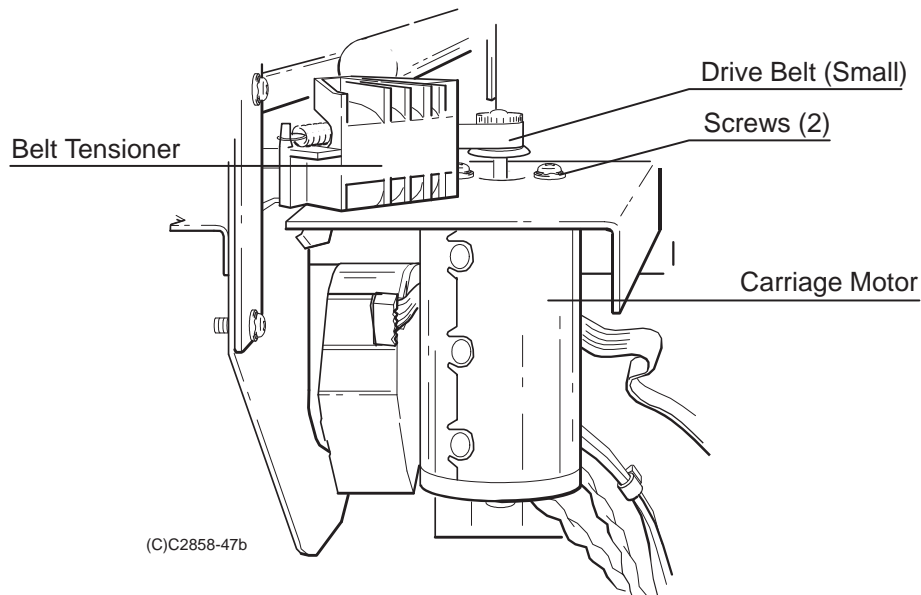

Figure 6-18.
4. Press the small drive belt against the tensioner wheel in the belt tensioner to loosen the belt and slide the belt off of the motor gear. See Figure 6-18.